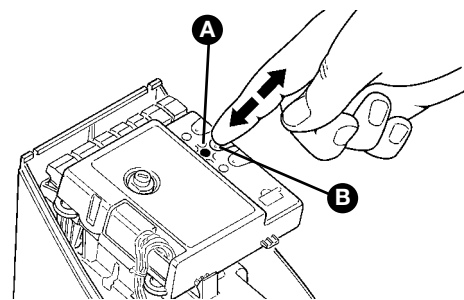
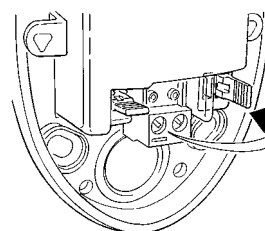

Figure 57
Figure 59
- 2 Identify the position where they are installed based on figure 57 and connect with jumper according to Table 11. The unused jumpers must be stored in their proper compartment for future use (Figure 59).